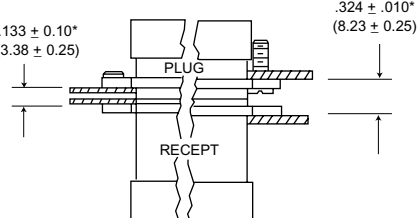
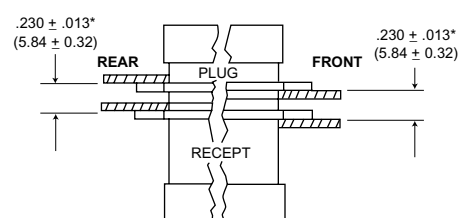

Figure 3
Figure 5
- With plug assembly rear mounted and receptacle assembly front mounted, use hardware from Figures 5 and 6. If float mounting is desired, use Figure 3 or 4 for the float mounted connector.
- With plug assembly front mounted and receptacle assembly rear mounted, use hardware from Figures 5 and 6. If float mounting is desired, use Figure 3 or 4 for the float mounted connector.